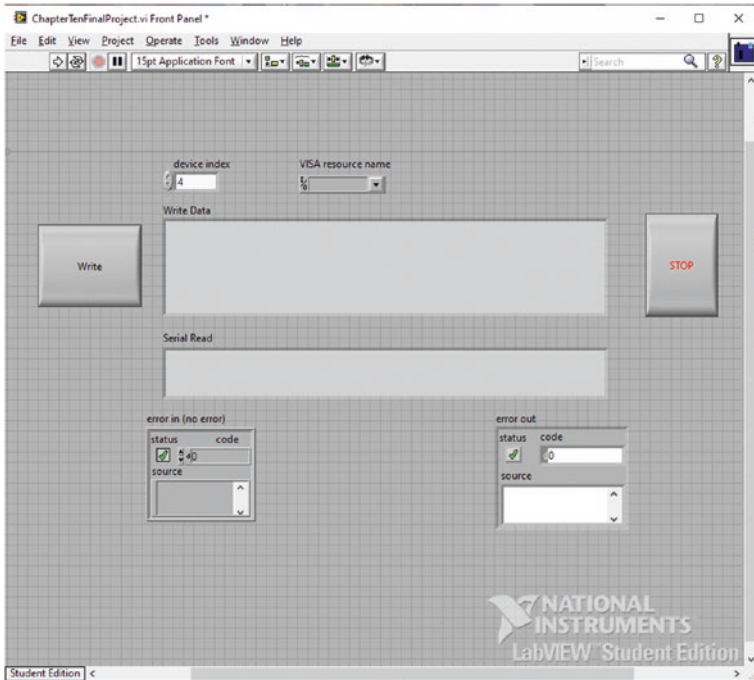

Figure 10-29. *Expand the Front Panel*
3. Go ahead and stretch it to be the same width as the “Write Data” string indicator and about half of its height. See Figure 10-29.